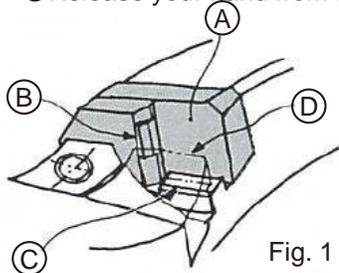
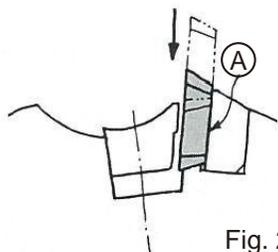

Fig. 1
Fig. 2
(1) Cleaning
- Using compressed air, blow off dust from the faces of the shim (A), the locator (B), the holder (C) and the wedge (D) (see Fig. 1).
(2) Mounting of inserts
- As shown in Fig.2 slide the insert down along the shim face (A).